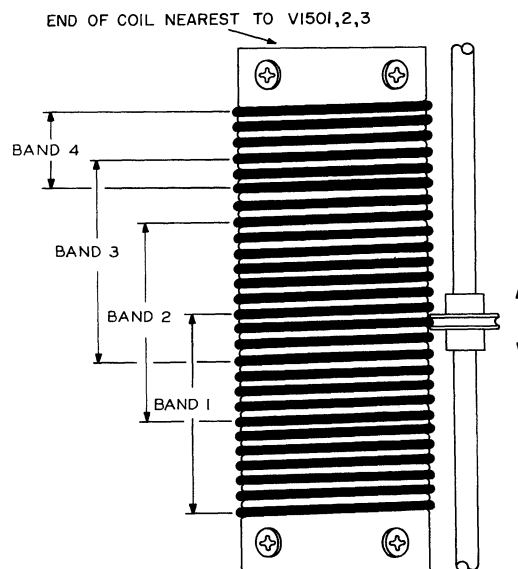
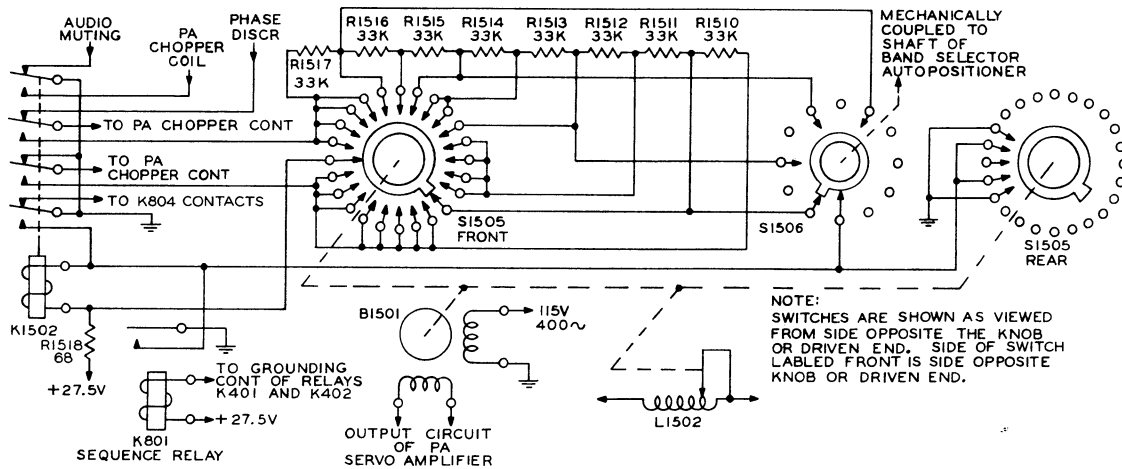

Figure 4-24. Inductor L1502, Approximate Tuning Ranges
Figure 4-25. Power Amplifier, Band Centering Circuit, Sequence of Operation (Step 1 of 4 steps)
4.9.4.2.1 BAND CENTERING CIRCUIT. The approximate tuning range on inductor L1502 is shown for the four bands in figure 4-24. The band centering circuit functions to place the shorting roller in the center of the appropriate band. A detailed sequence of operation of the band centering circuit is given in figure 4-25, steps 1 through 4. The rear section of switch S1505 functions as a protective stop mechanism. If, for some reason, servomotor B1501 continues to rotate until the shorting roller approaches either end of L1502, the rotor blade shorts one of the two sets of contacts indicated in figure 4-25. This provides a ground for relay K1502, and the band centering mechanism recycles.